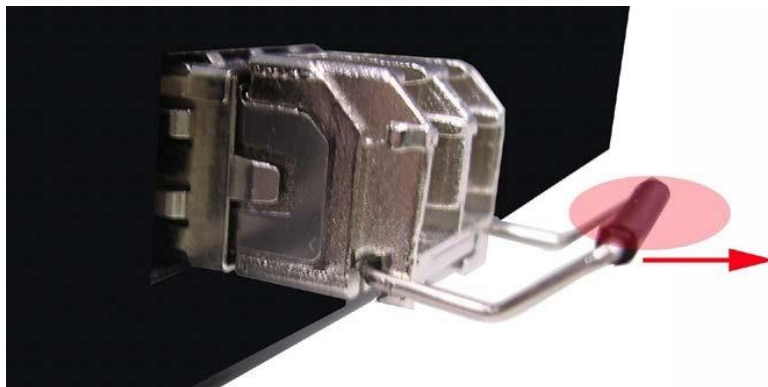

Figure 2.13
2. Push down the metal clasp and pull the transceiver out by the plastic part as shown below in *Figure 2.13*.